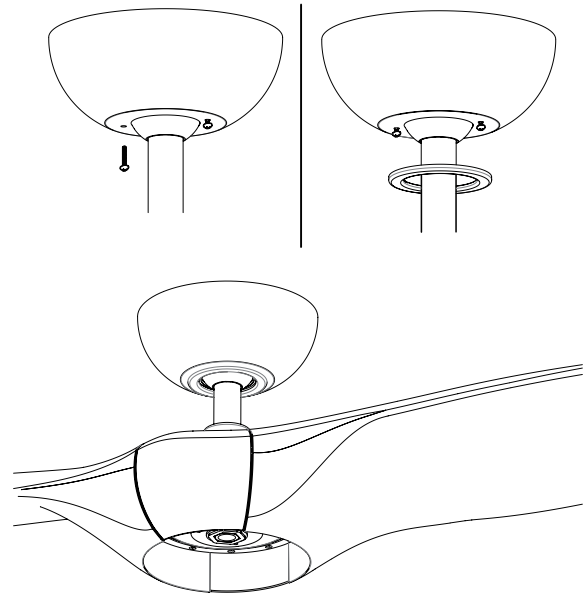

FIGURE 20
2. Tuck connections neatly into ceiling outlet box. Position the motor up to the hanger plate and attach the motor using two screws through the two key slots (Fig. 20).
3. Slide the canopy up to the hanger bracket and place the key hole on the canopy over the screw on the hanger bracket. Turn canopy until it locks in place at the narrow section of the key holes (Fig. 20).